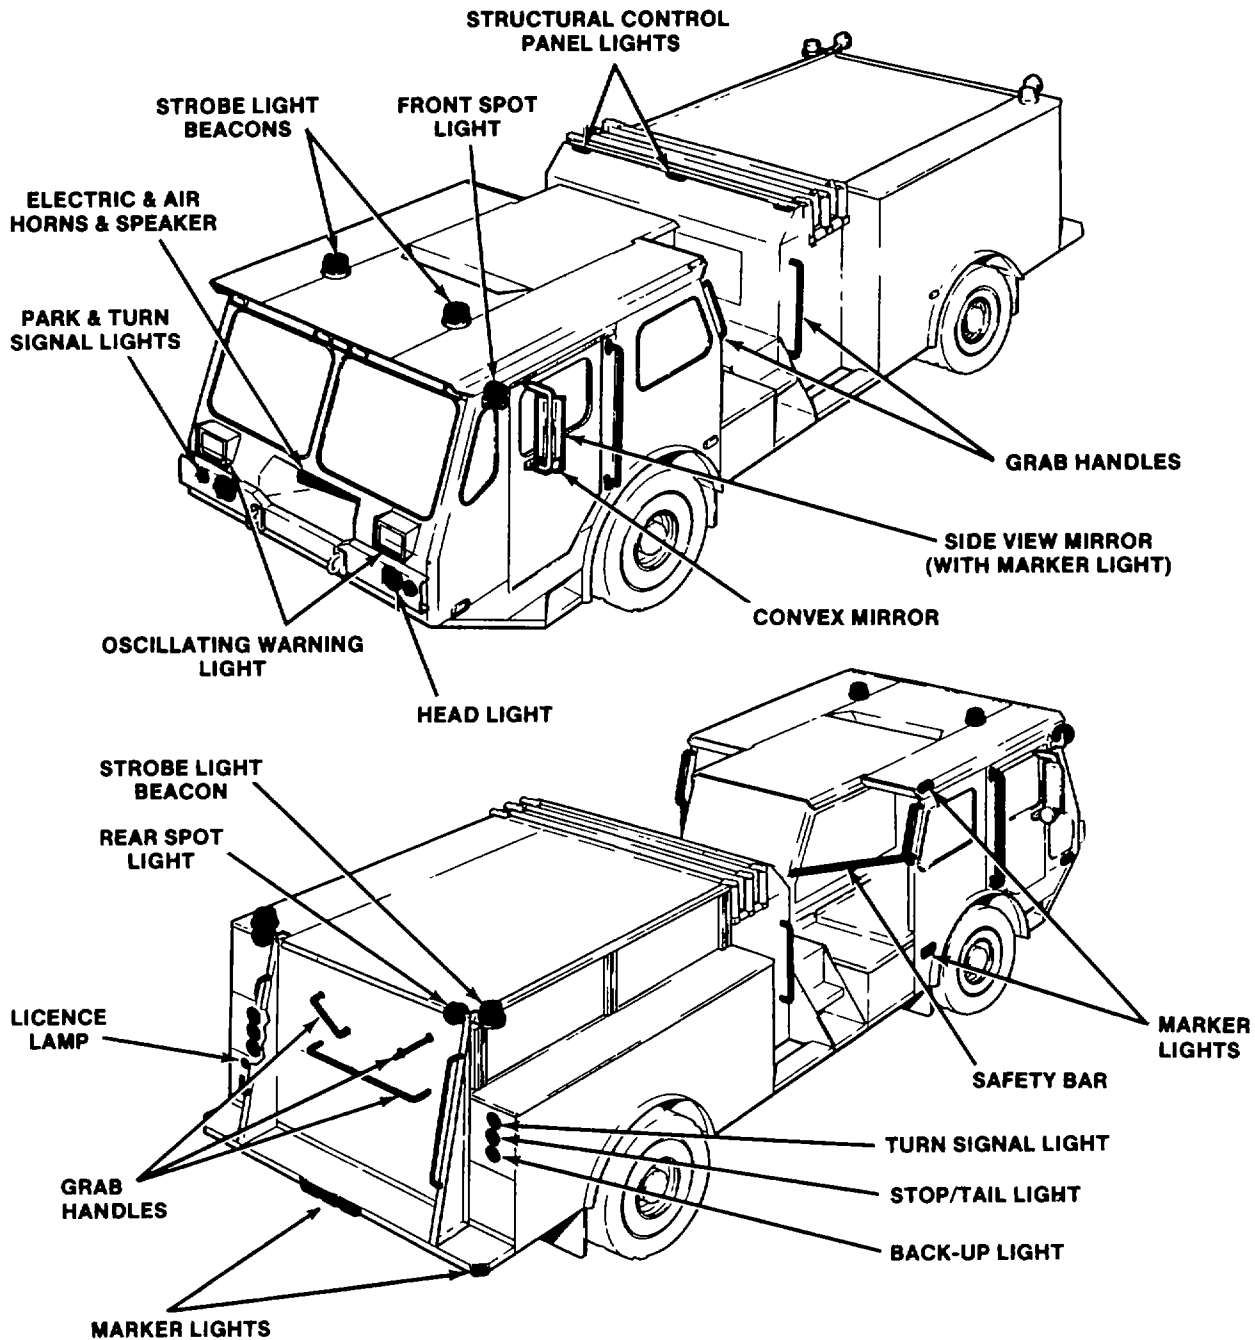

Figure 1-6 Cab Exterior Lights and Safety Devices
(1) The lights comprise the driving lights, signal lights, warning lights, work lights, and auxiliary lights. The exterior mounted lights are shown in figure 1-6.
(2) The headlights, parking lights, tail lights, marker lights, and license plate lights make up the driving lights group. These lights are controlled and operated by the driver from the dash panel.